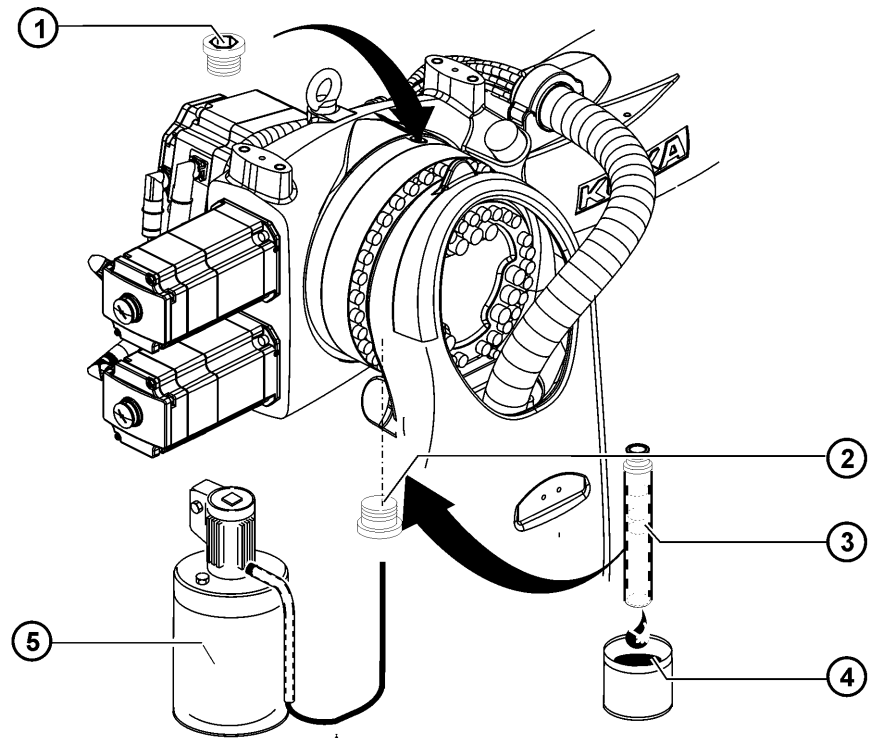

Fig. 9-4: Oil change, A3
1. Place a suitable receptacle (>>> Fig. 9-4) under the (lower) magnetic screw plug and remove the magnetic screw plug.